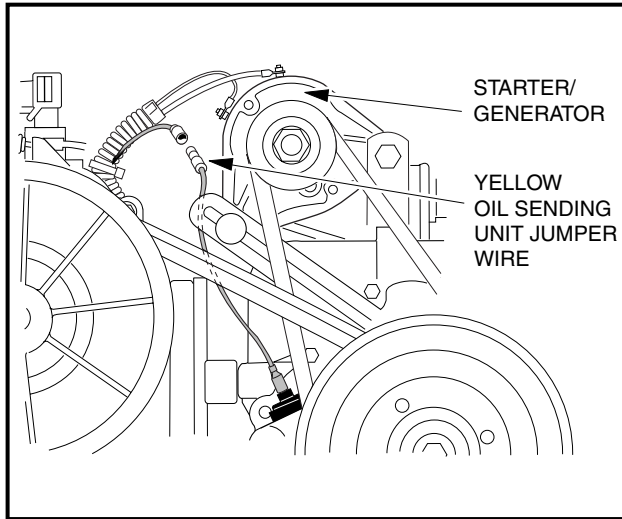

Figure 16-50 Oil Level Sensor Jumper Wire
25. Connect the oil level sensor wire (18-gauge yellow) to the jumper wire (**Figure 16-50, Page 16-21**).